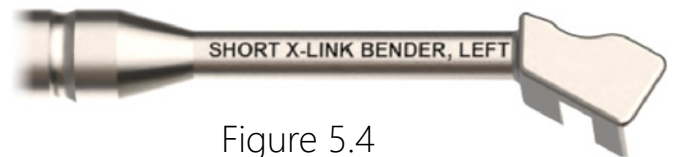

Figure 5.4
To insert Uniplanar and Reduction Uniplanar Screws, follow procedure thoroughly detailed in Figure 5.4 of the INERTIA® CONNEXX™ OPEN Surgical Technique Guide (71-050).
**NOTE:** The 23-29mm and 29-39mm CrossLynxx connectors have unique benders, labeled "SHORT X-LINK BENDER LEFT" and "SHORT X-LINK BENDER RIGHT" (Figure 5.4).